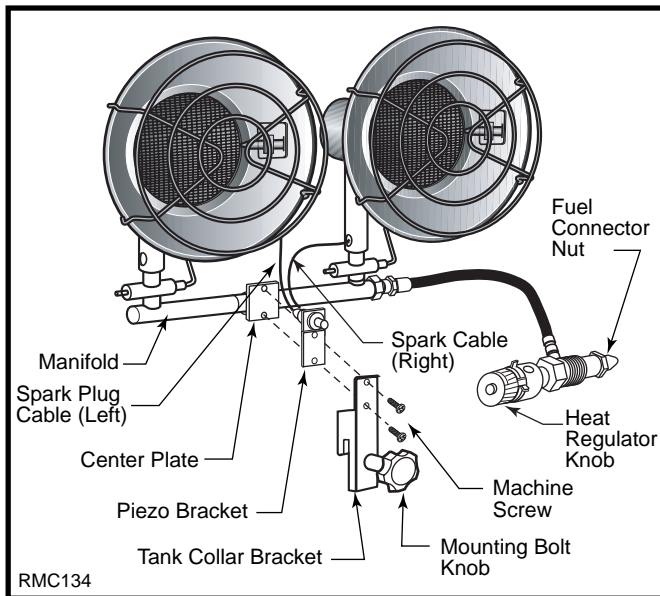

Fig. 1 Assemble tank collar bracket.
2. Thread two machine screws into the bolt holes attaching tank collar bracket and piezo bracket to center plate on manifold. (Fig. 1)
1. (Applies to dual burner models only). Place heater onto tank with tank collar bracket over tank collar (Fig. 1) Mounting bolt knob should be positioned to the outside of tank collar.
4. Wrench tighten the fuel connector nut into the propane tank valve with both gas hose fittings in a horizontal position. (Fig. 1) Turn fuel connector nut counterclockwise to tighten. Threads are left-handed.